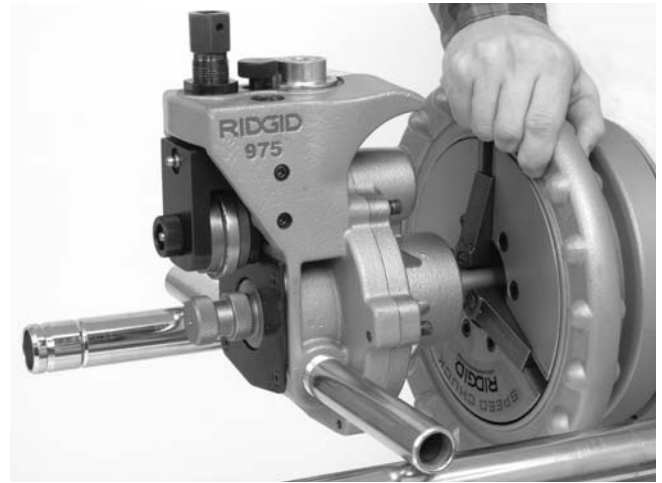

Figure 3 – Mounting 975 Combo Roll Groover Into 300 Power Drive Chuck
2. Place the support arms of the roll groover onto the support arms of the power drive and the end of the roll groover driveshaft in the chuck of the machine. Close and tighten the power drive chuck onto the flats of the driveshaft. Make sure that the driveshaft is centered in the chuck. Use repeated and forceful counter-clockwise spins of the speed chuck hammerwheel to securely grip the driveshaft (*Figure 3*).